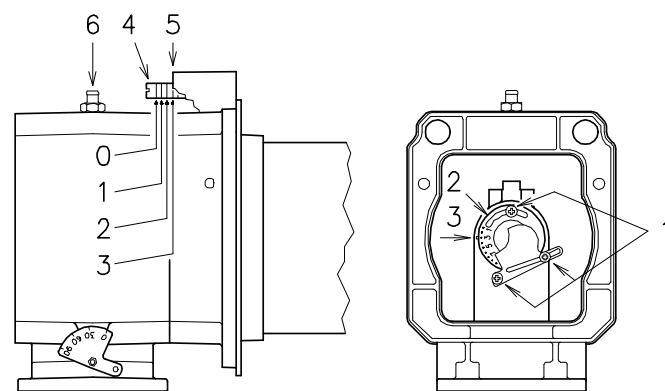

Fig. 14
- Turn the screw 4 (Fig. 14) until the notch found lines up with the front surface 5) of the flange.
To facilitate the adjustment, loosen the screw 6 (Fig. 14), adjust, then block.
- Loosen the screws 1 (Fig. 14) and rotate the ring nut 2) until the notch you have found corresponds with the indicator 3).